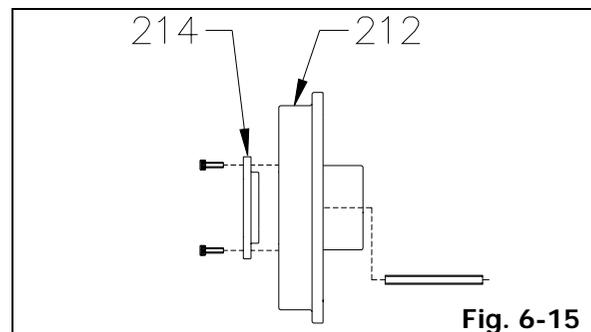

Fig. 6-15
- Remove three (3) end ring bolts and lift off end ring (214) from stuffing box cover (212).
- Remove two (2) stuffing box cover studs from stuffing box cover (212) (Fig. 6-15).